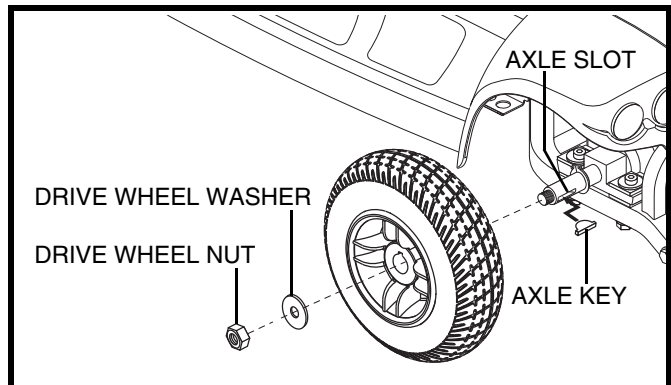

Figure 29. Wheel Replacement
3. Remove the drive wheel nut and washer from the axle. **See figure 29.**